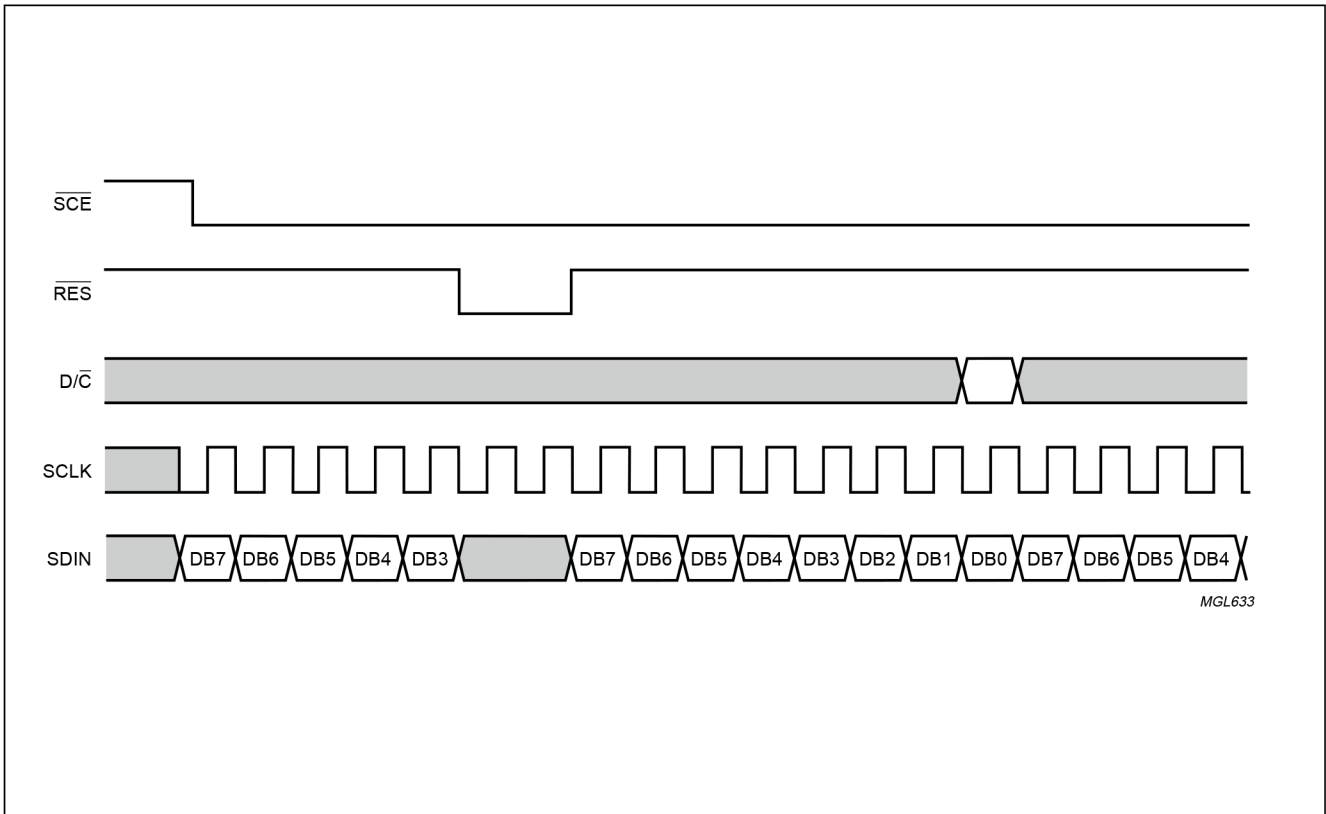

Figure 13: Serial bus reset function (\overline{RES}).
- A reset pulse with RES interrupts the transmission. No data is written into the RAM. The registers are cleared. If \overline{SCE} is LOW after the positive edge of \overline{RES} , the serial interface is ready to receive bit 7 of a command/data byte (see Fig.13).